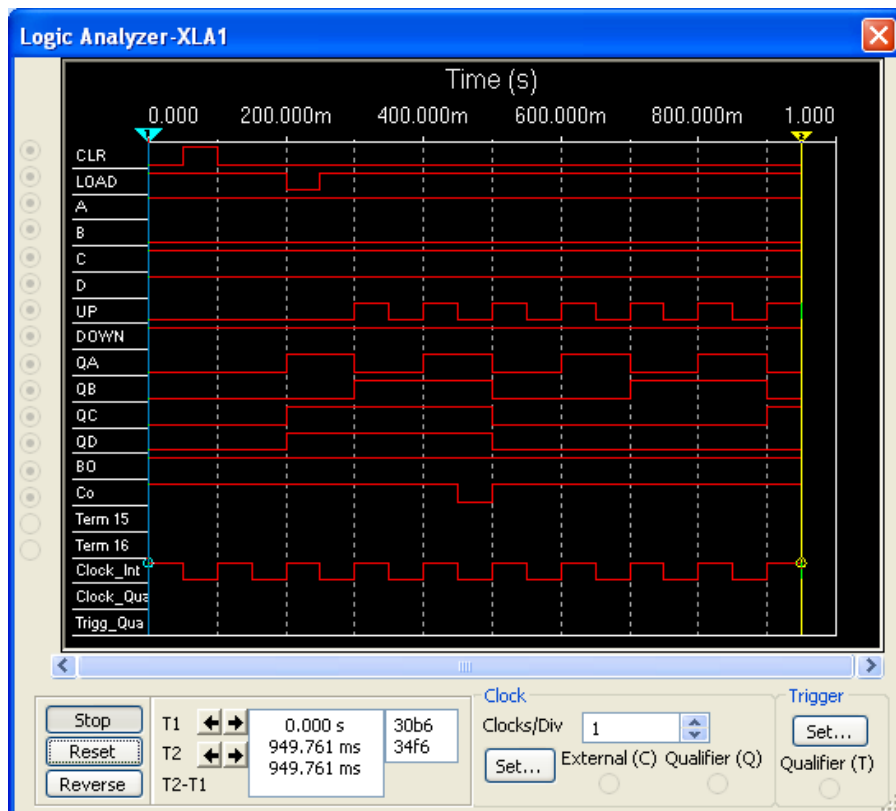

Figure 3. Test Circuit Output (Logic Analyzer Display)
- (1) When the CLR input is 0, the output should reset to 0.
- (2) When the CLR input is set back to 1, the output should count up. (It is recommended that you set the simulation speed to somewhere around "walk" so you can actually see the count changing. Also, the timing diagram shown in Figure 3 should be generated.